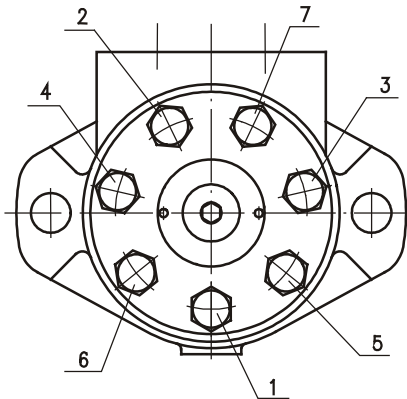

Fig.10
20. Install screws and washers in end cover. Tighten screws with $4 \div 4,2$ daNm torque using a S13 torque wrench in sequence as shown in Fig.10.